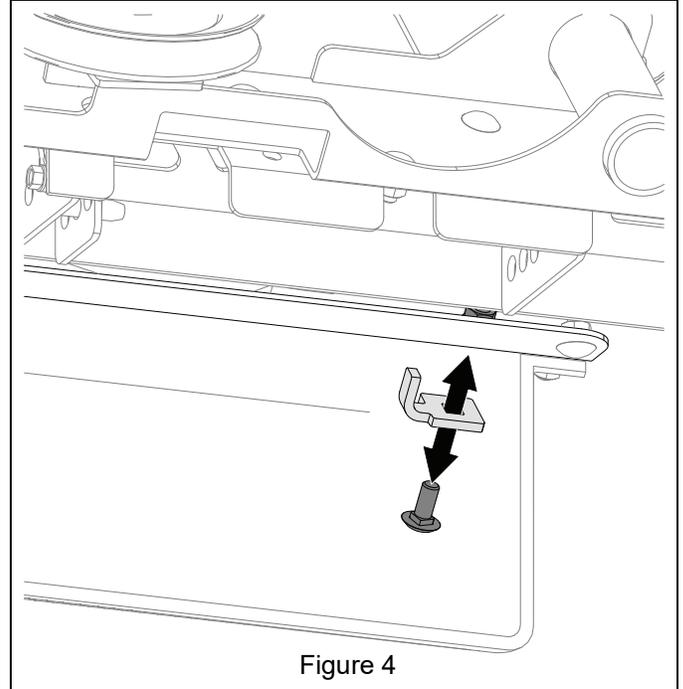

Figure 4
6. Remove and discard hardware retaining discharge plug bracket from front of blower housing outlet. Remove and discard bracket. See Figure 4.